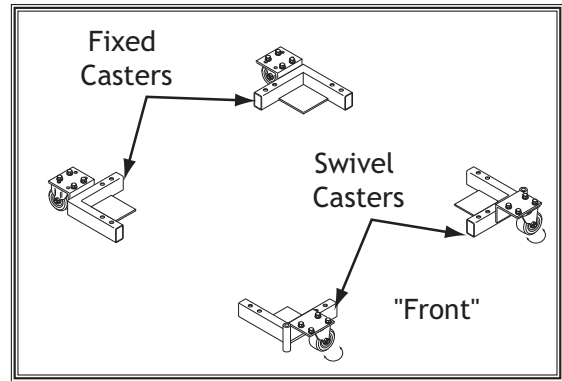

Figure 8. Corner brackets with casters layed out on floor.
3. Lay the four corner brackets on the floor in the pattern illustrated in **Figure 8**.